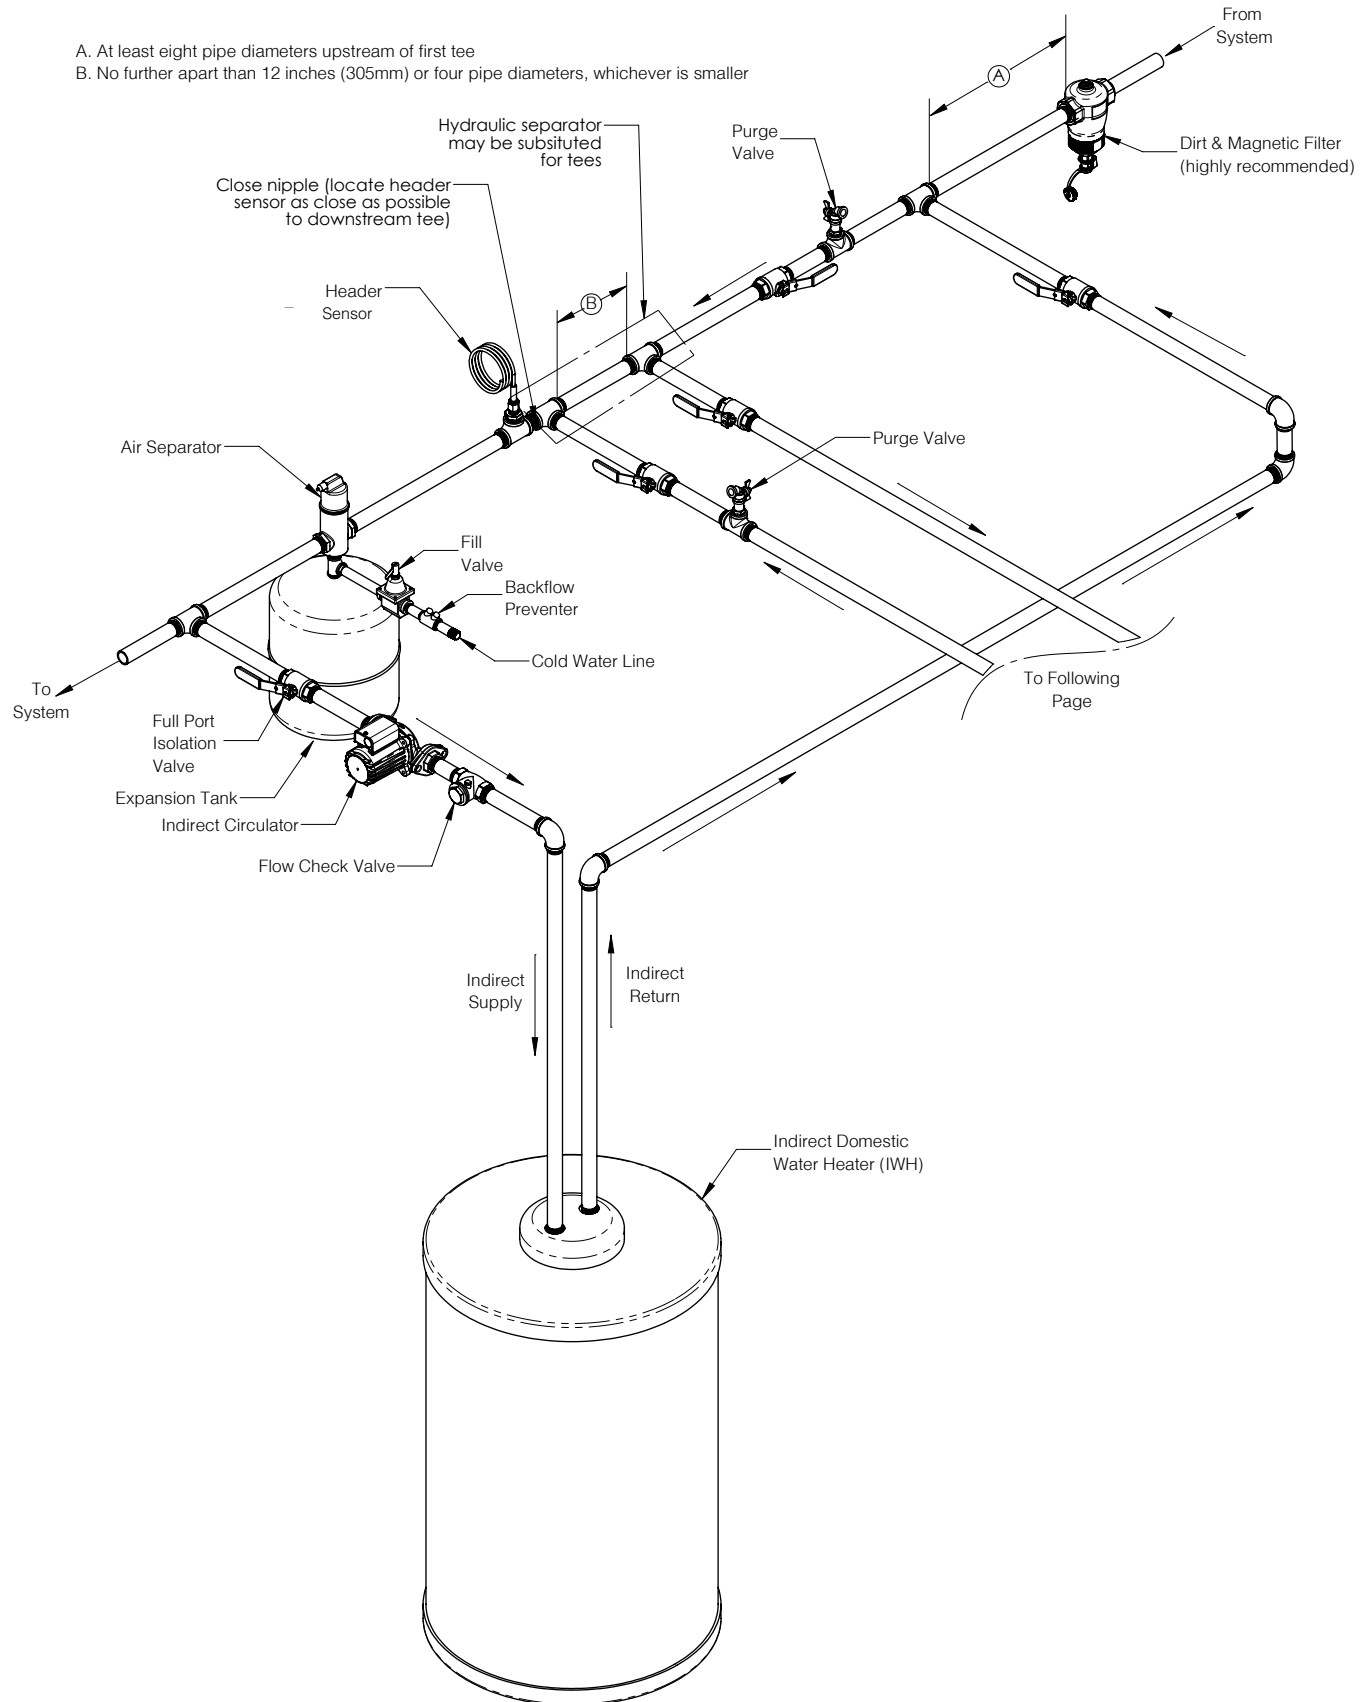

Figure 3-2: Multiple Boiler Water Piping w/Primary Piped Indirect Water Heater
1. Multiple boiler heating systems piping is shown in Figure 3-2.
A header sensor must be installed and wired to the Sequencer Master “enabled” control. The header sensor is installed on the common system piping and provides blended temperature information to the Sequencer Master. Refer to piping diagram Figure 3-2 for installation location and Figure 3-5 or 3-6 for installation detail.
NOTICE: The “Strap-On” type sensor must be mounted to the top side of a horizontal section of pipe as indicated in Figure 3-2.